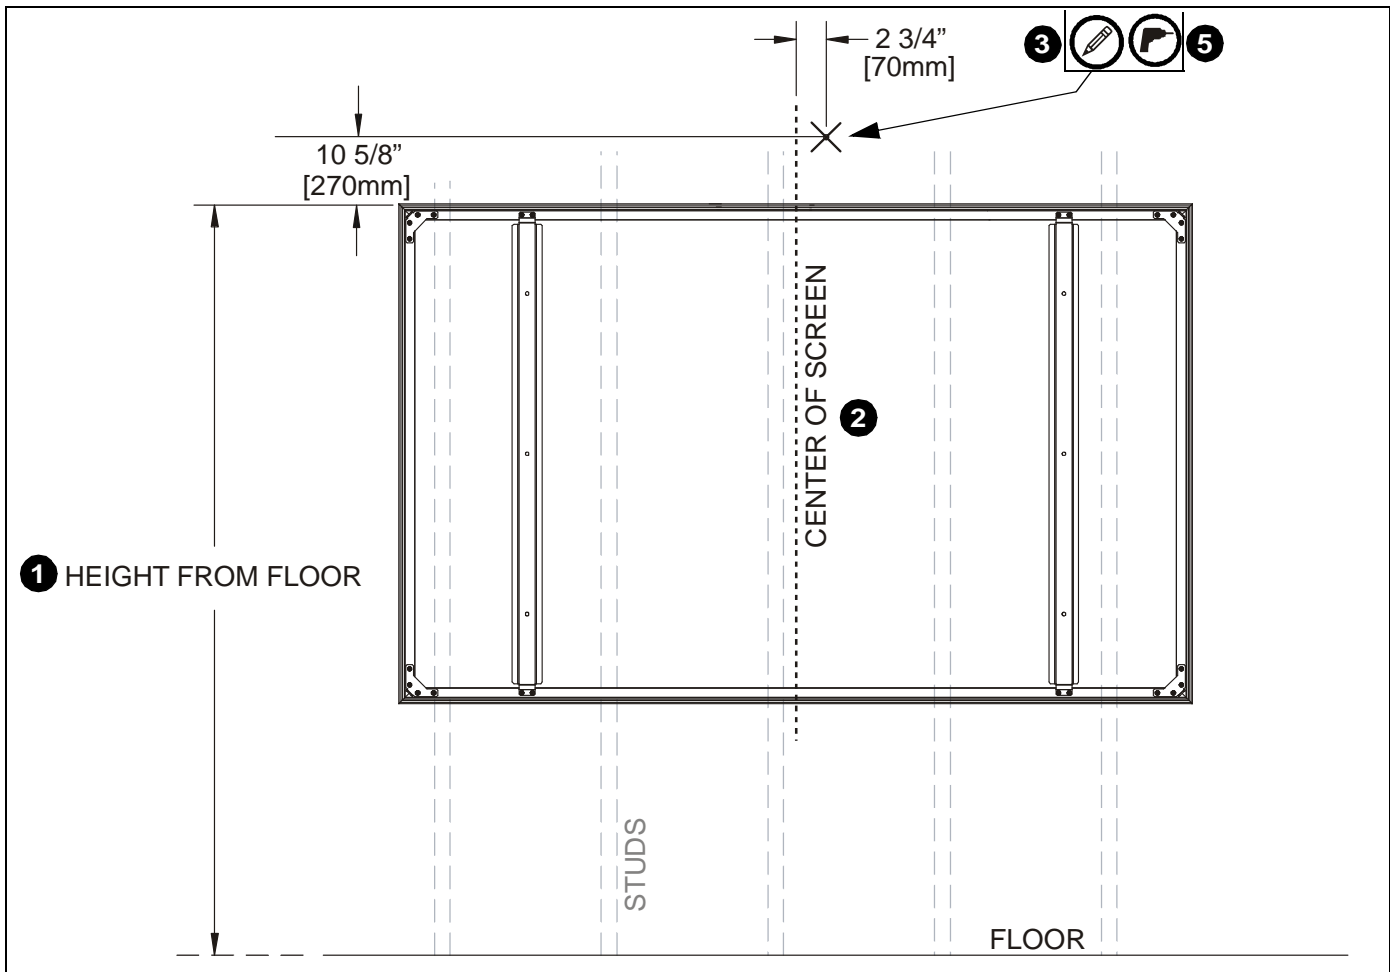

Figure 1
1. Determine desired height of screen (measured from floor). (See Figure 1)
2. Determine desired center of screen. (See Figure 1)
3. Measure **10-5/8 inches (270mm)** up from desired height (top) of screen and **2-3/4 inches (69mm)** to the right of center of screen and mark location. (See Figure 1)
5. Drill one pilot hole (see Table 1 for size) at location marked in Step 3 (See Figure 1) and follow fastener information (appropriate for wall type) located in Table 1.